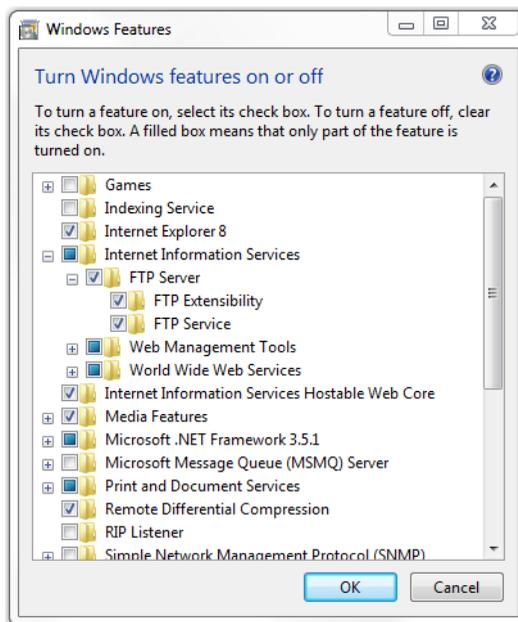

FIGURE 2-2 Windows® Features - Internet Information Services
Step 6 Expand **FTP Server**. Select all items, as shown in FIGURE 2-2.
Step 7 Select **Web Management Tools**, as shown in FIGURE 2-2. Accept all defaults.
Step 8 Select **World Wide Web Services**, as shown in FIGURE 2-2. Accept all defaults.